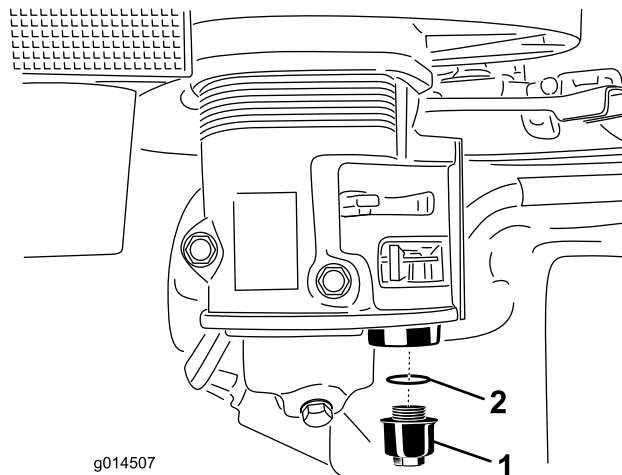

Figure 13
2. Unscrew the sediment cup. Make sure not to misplace the o-ring (Figure 13).